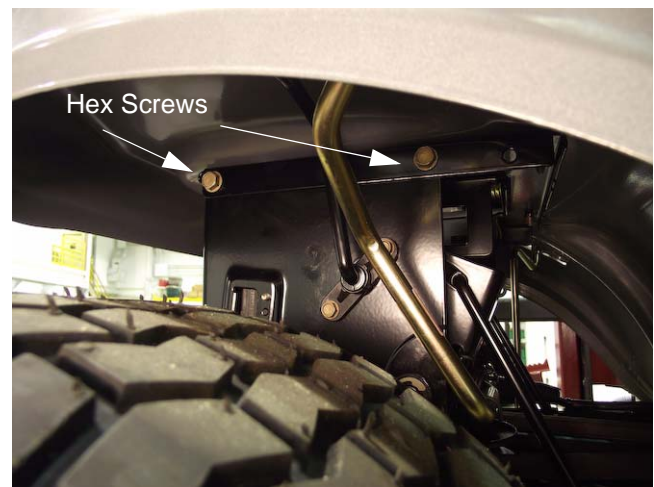

Figure 4.15
14. From under the fenders, remove the four hex screws that secure the seat frame bracket to the frame assembly. See Figure 4.15.